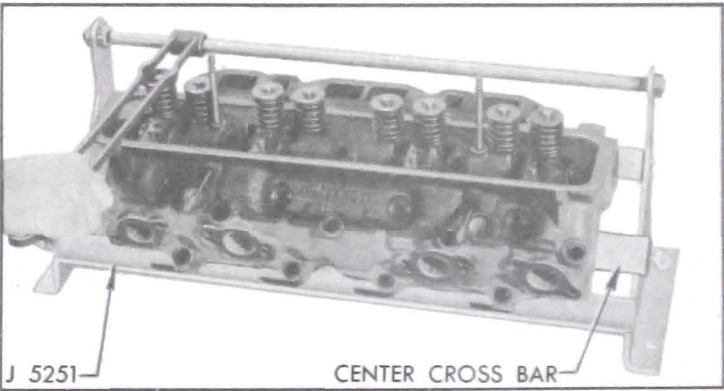

Figure 2-17—Removing Valve in Holding Fixtures J 5251
- 1. Place cylinder head on Holding Fixture J 5251 with valve springs straight up. Compress valve springs with fixture lever and remove the spring cap keys, then remove the springs and caps. See figure 2-17.